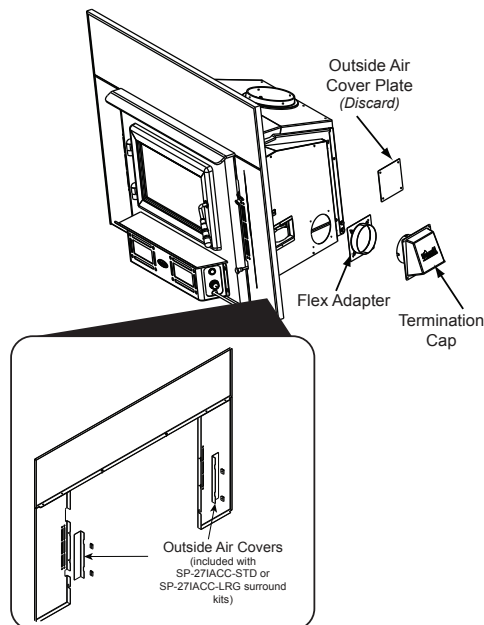

Figure 17.1
1. Remove the **outside air cover plate** from the outer can of the appliance and discard (Figures 17.1).
8. See instructions that come with your blower kit to attach rectangular outside air cover (Figure 17.1).